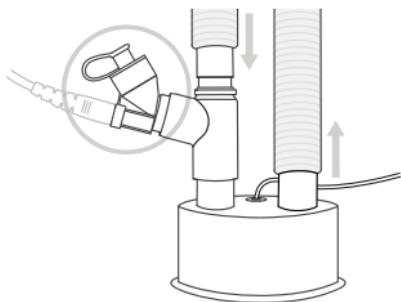

Figure 7. Aerogen Solo on dry side of humidifier
2. The Aerogen Solo can be placed on the dry side of the humidifier as shown in Figure 7. The Aerogen Solo can be used with a nasal interface in this configuration.
The Aerogen Solo can be used on/off ventilator with a nasal interface when configured with a humidifier (Figure 7).